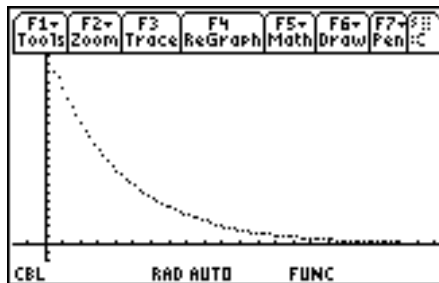

Figure 6.
5. After the data is collected, a plot of voltage (in volts) vs. time (in seconds) appears on the calculator screen. The plot should look similar to the one shown in Figure 6. Make a printout of this graph using TI-GRAPH LINK or save it as a PIC variable to be printed later. Attach this printout to your worksheet. Be sure to include appropriate scales and axis labels on the printout. The data is saved in lists  $L_4$  and  $L_2$ . It would be prudent to save these lists to lists with new names, perhaps  $D_1$  and  $D_2$ , as subsequent experiments will erase  $L_4$  and  $L_2$ .